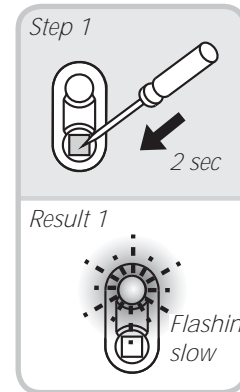

Fig. 18
- Press the learning button for approximately 2 seconds. The LED flashes slowly to indicate learning mode (see Fig. 18).